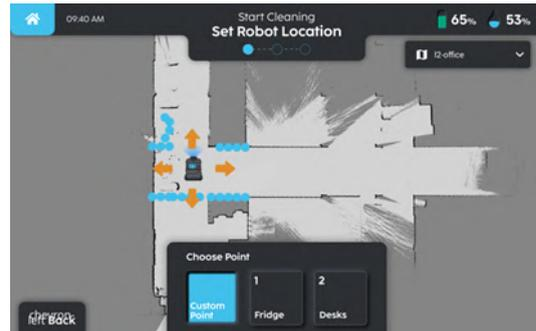

FIGURE 8-7
4. If using **Custom Point**, the operator is required to select a point of the map that the machine is currently positioned in (**Fig. 8-7**). Use the LiDAR points to ensure that the machine is properly positioned.